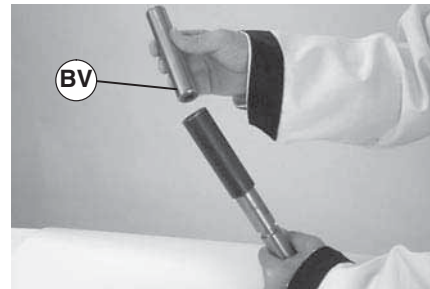

Figure 39
- Place open end of pusher (Figure 39, item BV) into sleeve.